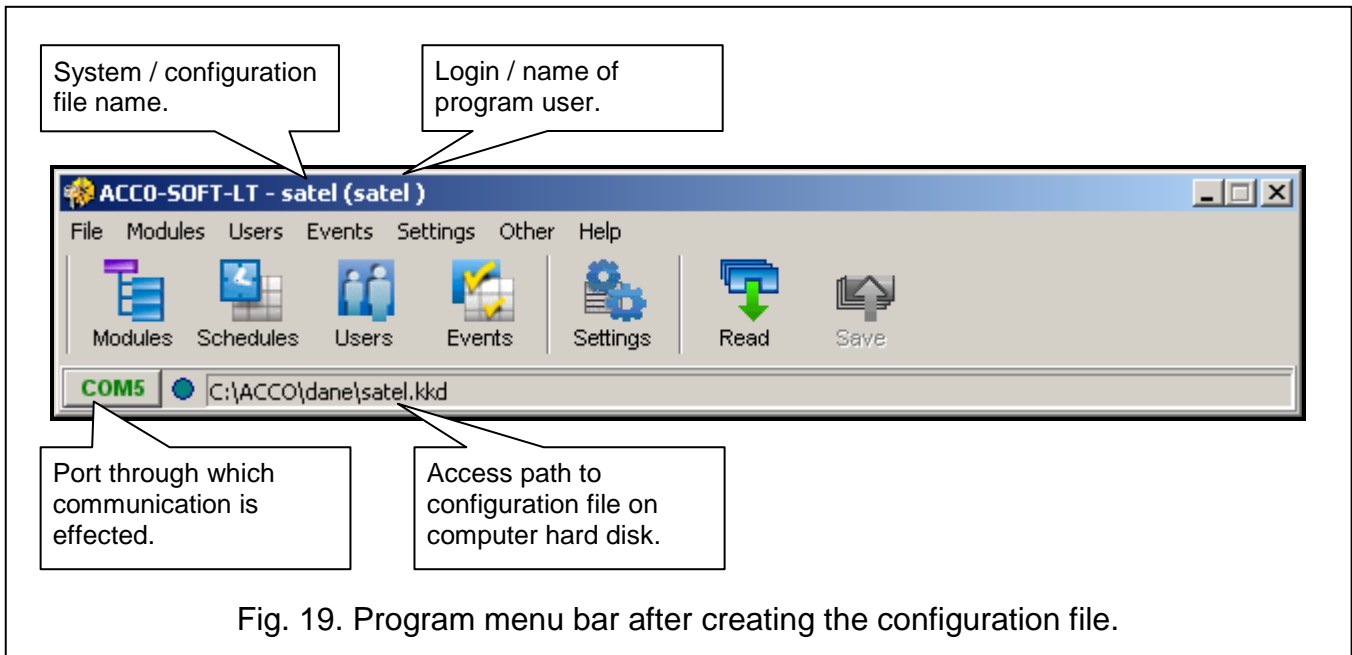

Fig. 19. Program menu bar after creating the configuration file.
4. After creating the configuration file (or opening the already existing file) the appearance of the program menu bar will change (see Fig. 19). The entire menu will be available, including all icons.
- Having configured the module(s), save the new settings. The SAVE icon in the modules window enables saving the data to the selected module. The SAVE icon available on the program menu bar (see Fig. 19) makes it possible to save the data to all system modules whose settings have been changed.